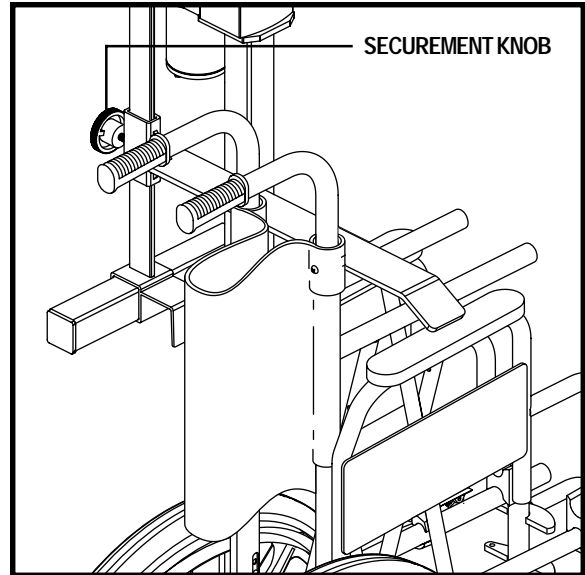

Figure 8. Lock-down Arm Positioning
7. Loosen the securement knob on the rear of the lock-down arm and slide the arm down over the wheelchair armrests with enough pressure to hold the wheelchair in place. Tighten the securement knob to lock the arm in place. See figure 8.